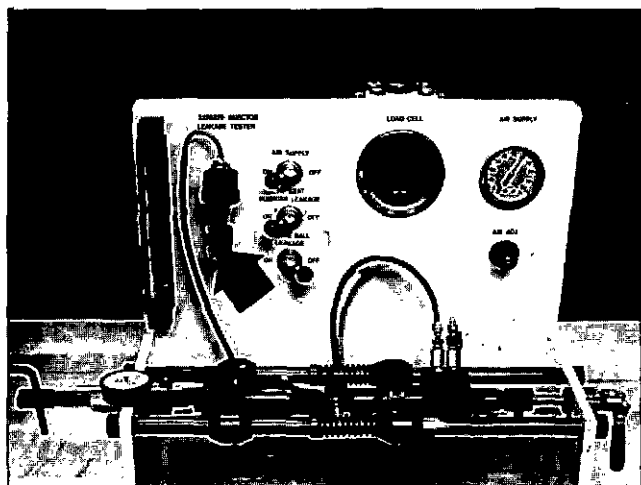

Fig. 4-13, (F60246). Check the cup to plunger seating
4. Turn the air supply valve ON and look for bubbles in the bubble checker. If no bubbles appear within 10 seconds, or if the time between bubbles is more than 5 seconds, the cup to plunger seating is acceptable, Fig. 4-13. If unacceptable, retorque the cup.